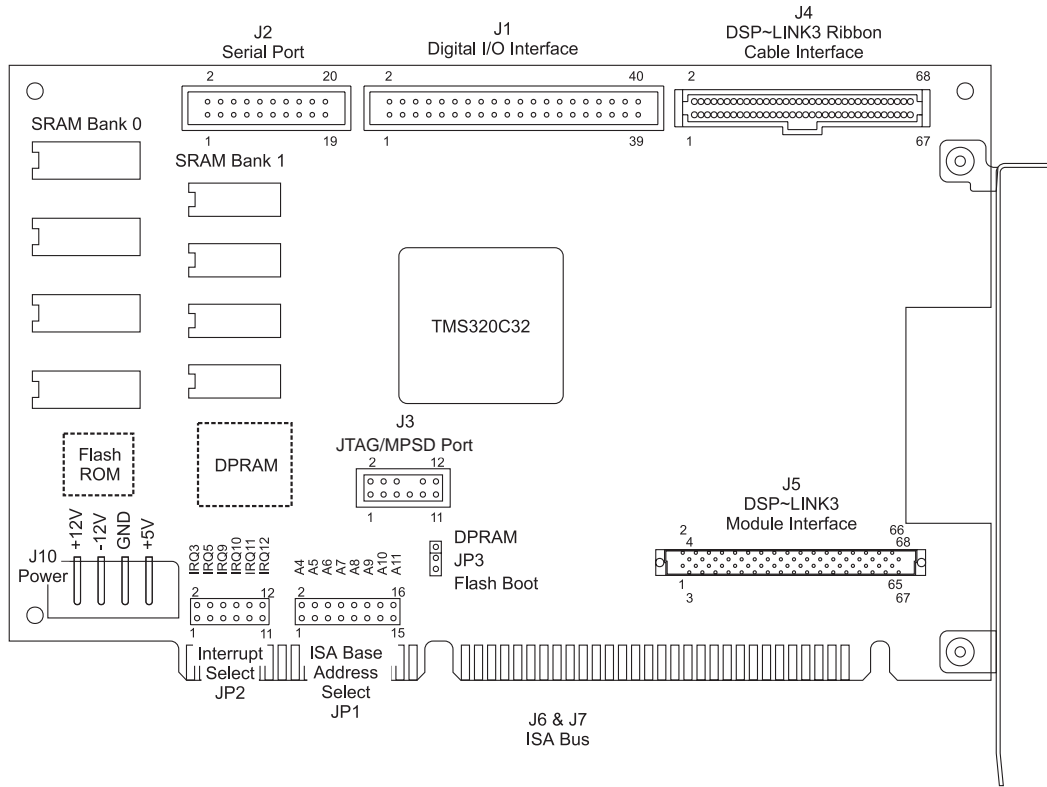

Figure 1 F3 Board Layout
- Regulated power supply able to supply +5 VDC, +12 VDC, -12 VDC, and ground to the PC hard disk type power connector J10. Refer to figure 1 for the proper power connections.